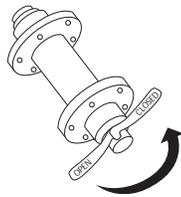

fig. 1
2. Move the quick release lever to the OPEN position and set the wheel so it seats firmly at the end of the frame or fork tips. [fig. 1].